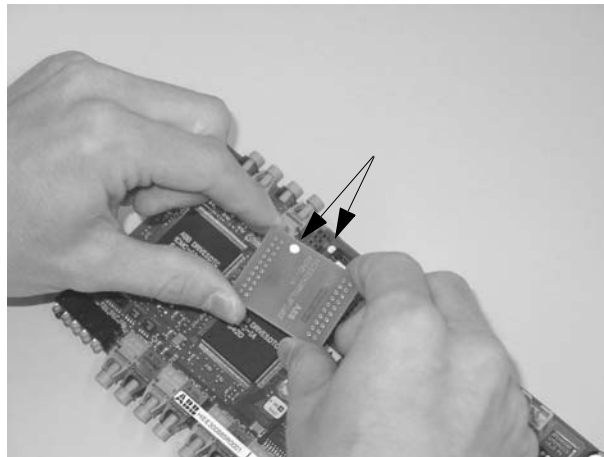

Figure 12-5 Attaching the Flash Memory PCB
- 4 When attaching the new PCB make sure that the white dot on the PCB is on top of that on the AMC3 board (see Figure 12-5).